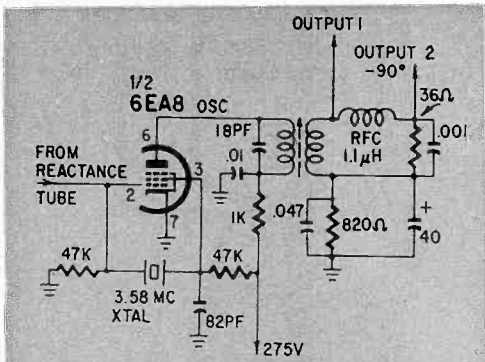

Fig. 4—Pentode Pierce oscillator generates 3.58-mc subcarrier. Same kind of circuit used with pentagrids in AM sets.
**4. The 3.58-mc oscillator.** This is usually a standard crystal oscillator circuit. Sometimes it's even a Pierce, which is about as simple as you can get. Tube, crystal, and a few oddments like plate voltage and stuff. Fig. 4 shows a typical oscillator circuit, which, come to think of it, is a Pierce, the original version. This uses the screen grid as the oscillator plate, leaving the real plate free to take off the 3.58-mc signal. (Is this unusual? How about the oscillator circuit in some small radios where a pentagrid tube is used as mixer-oscillator? The screen's the oscillator plate, and the i.f. signal is taken from the real plate. Same thing.)